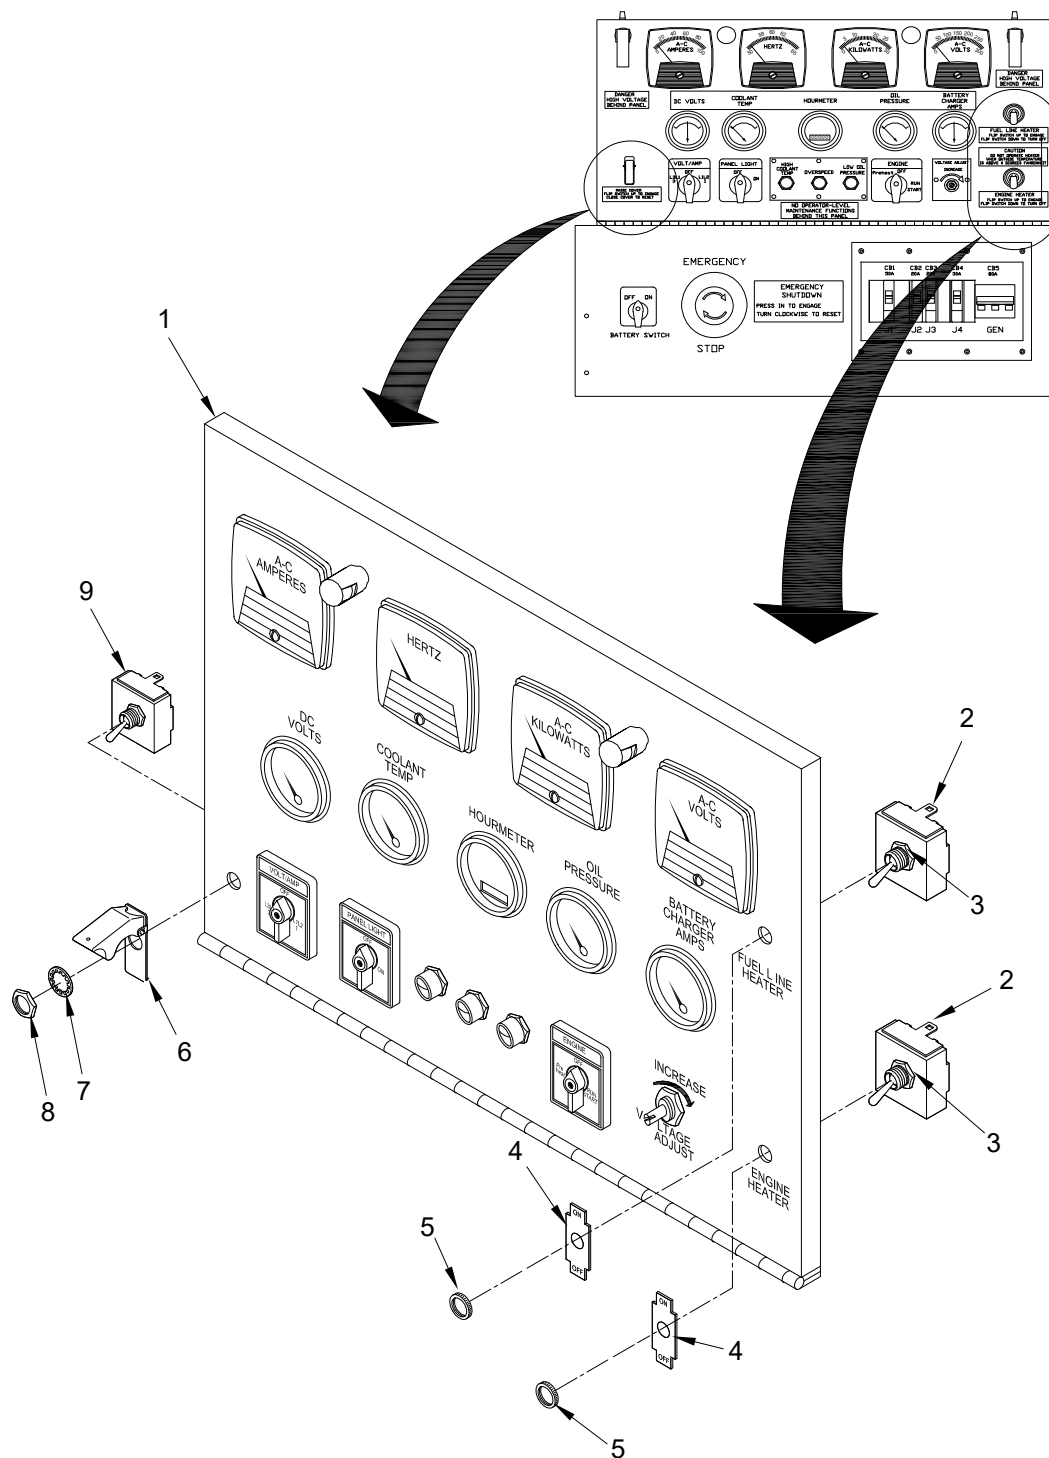

Figure 3. Toggle Switch Removal/Replacement.
3. Open door and control panel (Figure 3, Item 1), allow control panel (Figure 3, Item 1) to drop down and hang from lanyards. Remove any strap-ties securing associated wiring harness to control panel (Figure 3, Item 1).
4. Mark and disconnect all wires from toggle switch (Figure 3, Item 2) being observant of terminal association.
5. Remove and retain nut (Figure 3, Item 5) and plate (Figure 3, Item 4) from toggle switch (Figure 3, Item 2) being replaced.
6. Remove toggle switch (Figure 3, Item 2) from control panel (Figure 3, Item 1).
Ensure nut (Figure 3, Item 3) is present on switch (Figure 3, Item 2). If necessary, adjust to allow sufficient threads to protrude through control panel.
1. Install toggle switch (Figure 3, Item 2) into control panel (Figure 3, Item 1) being observant of orientation.
2. Install plate (Figure 3, Item 4) and secure to control panel (Figure 3, Item 1) with nut (Figure 3, Item 5).
3. Connect all wires to toggle switch (Figure 3, Item 2).
4. Mark and disconnect all wires from toggle switch (Figure 3, Item 9) being observant of terminal association.
5. Remove and retain nut (Figure 3, Item 8), lock washer (Figure 3, Item 7), and guard (Figure 3, Item 6).
6. Remove toggle switch (Figure 3, Item 9) from control panel (Figure 3, Item 1).
Ensure nut (Figure 3, Item 3) is present on switch (Figure 3, Item 9). If necessary, adjust to allow sufficient threads to protrude through control panel.
1. Install toggle switch (Figure 3, Item 9) into control panel (Figure 3, Item 1) being observant of orientation.
2. Install guard (Figure 3, Item 6) and secure to control panel (Figure 3, Item 1) with lock washer (Figure 3, Item 7) and nut (Figure 3, Item 8)
3. Connect all wires to toggle switch (Figure 3, Item 9).
4. Close control panel (Figure 3, Item 1) and secure.